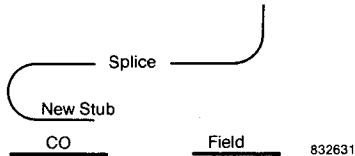

Fig. 108—Remove original stub from bridge splice.
- o. Remove original stub from bridge splice. See Figure 108.